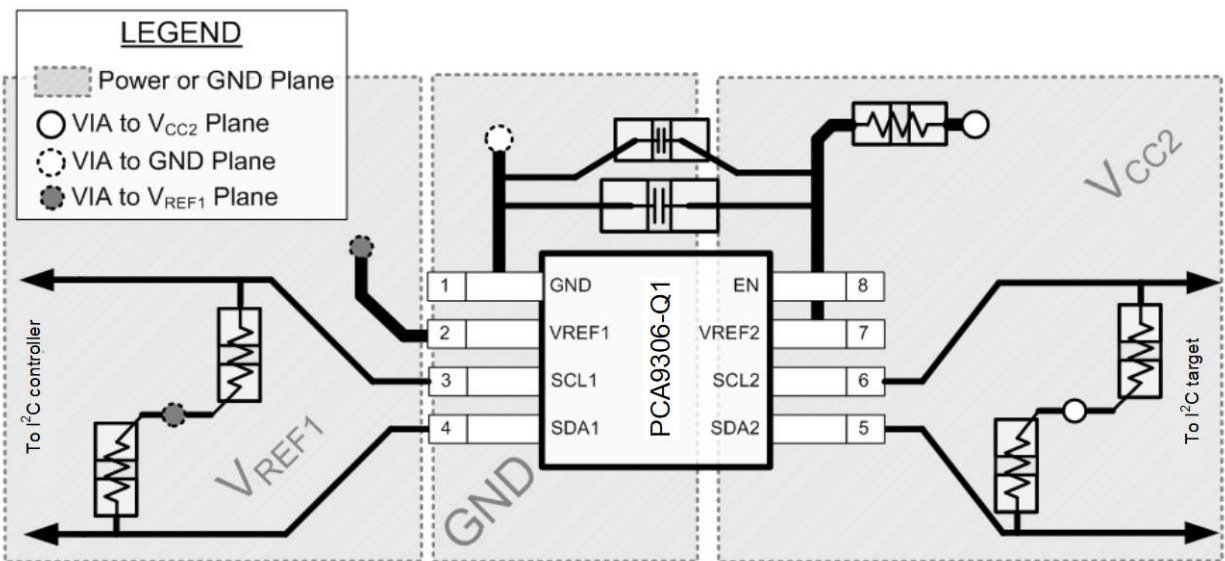

图 11-1. PCA9306 Layout Example
In all PCB layouts, it is a best practice to avoid right angles in signal traces, to fan out signal traces away from each other on leaving the vicinity of an integrated circuit (IC), and to use thicker trace widths to carry higher amounts of current that commonly pass through power and ground traces. The 100-pF filter capacitor should be placed as close to VREF2 as possible. A larger decoupling capacitor can also be used, but a longer time constant of two capacitors and the 200-k $\Omega$  resistor results in longer turnon and turnoff times for the PCA9306 device. These best practices are shown in 图 11-1.
For the layout example provided in 图 11-1, it would be possible to fabricate a PCB with only two layers by using the top layer for signal routing and the bottom layer as a split plane for power (VCC) and ground (GND). However, a four-layer board is preferable for boards with higher-density signal routing. On a four-layer PCB, it is common to route signals on the top and bottom layer, dedicate one internal layer to a ground plane, and dedicate the other internal layer to a power plane. In a board layout using planes or split planes for power and ground, vias are placed directly next to the surface-mount component pad, which must attach to VCC or GND, and the via is connected electrically to the internal layer or the other side of the board. Vias are also used when a signal trace must be routed to the opposite side of the board, but this technique is not demonstrated in 图 11-1.